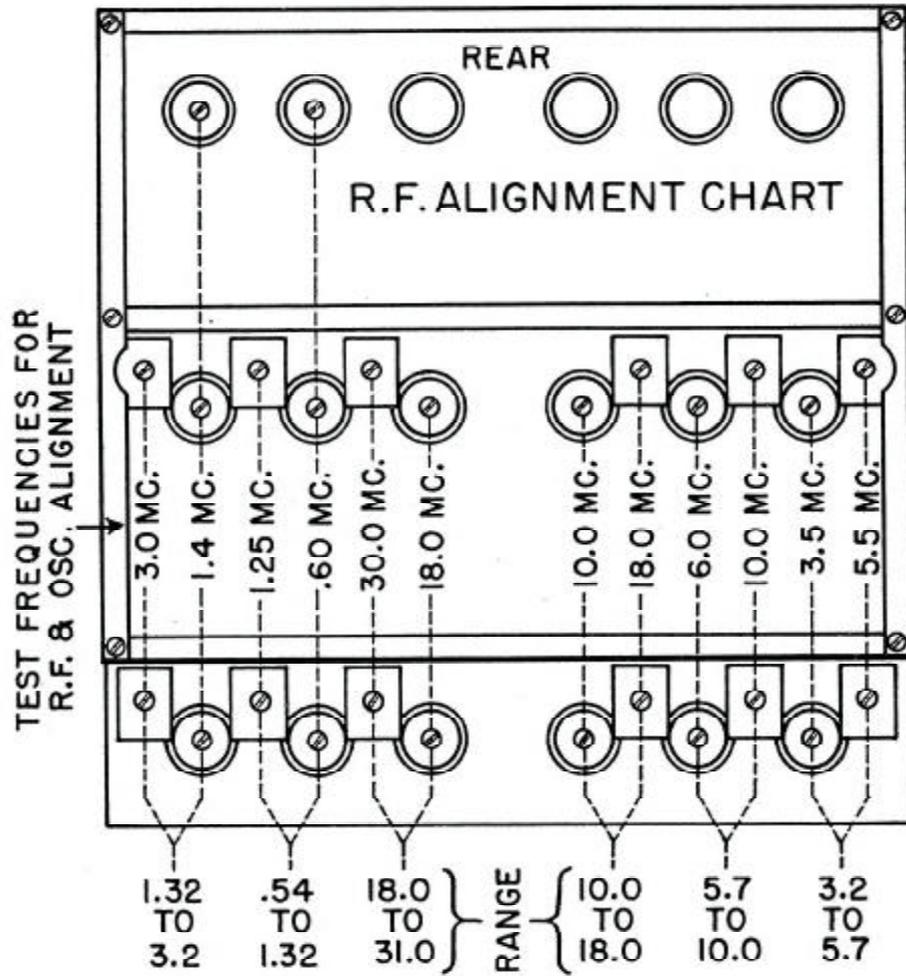

Fig. 7. RF and HF Osc. Alignment Chart
dummy antenna (or through a 400 ohm resistor if the dummy antenna is not available) and with the band spread dial set at 200 on its arbitrary scale, adjust the signal frequency to 1.25 megacycles. Set the band change switch to the .54 to 1.32 mc position, the main dial to 1.25 mc (see Fig. 7), and adjust capacitors C149, C150 and the antenna compensator C101 for maximum output. Adjust the signal generator output or the sensitivity control to give the desired output meter reading without overloading.
13.52 Set the main dial and the signal generator frequency at .6 megacycles and adjust inductors L113, L107, and L101 for maximum output meter reading. Repeat the above adjustments until no increase of output is obtained. Follow the same procedure as above for the other five frequency bands, referring to the alignment chart Fig. 7 and to Fig. 18 for the alignment frequencies and location of adjustments.